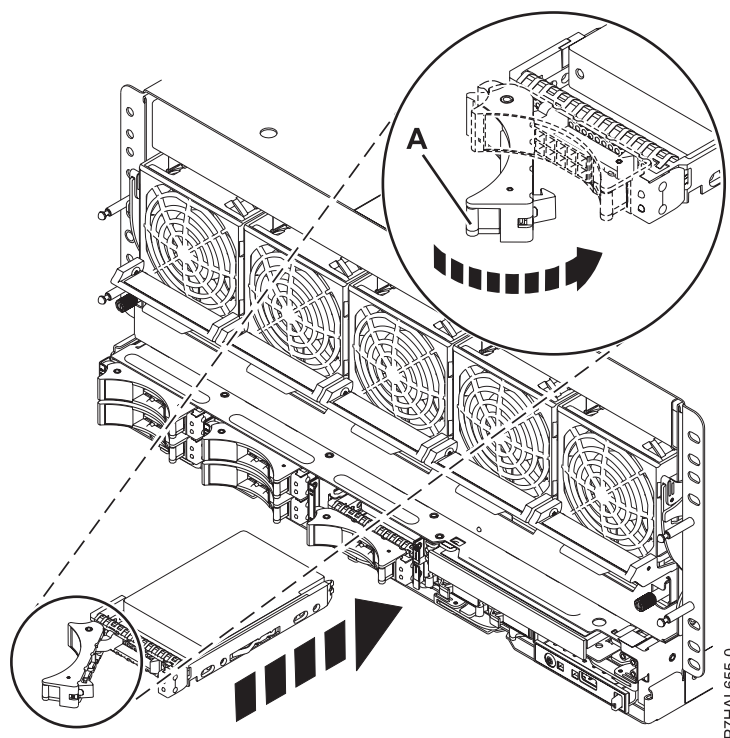

Figure 43. Replacing a disk drive in the system
8. When the identify LED turns on solid, slide the disk drive or solid-state drive all the way into the system or an expansion unit, and push the drive handle (A) in until it locks, as shown in Figure 43.